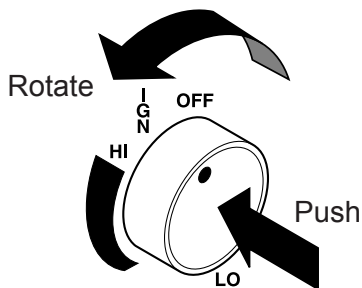

Figure 45 - IGN Position
6. From OFF position, push in gas control knob slightly and turn counterclockwise  to the IGN position. See *Figure 45*. Push in and hold control knob for 5 seconds.